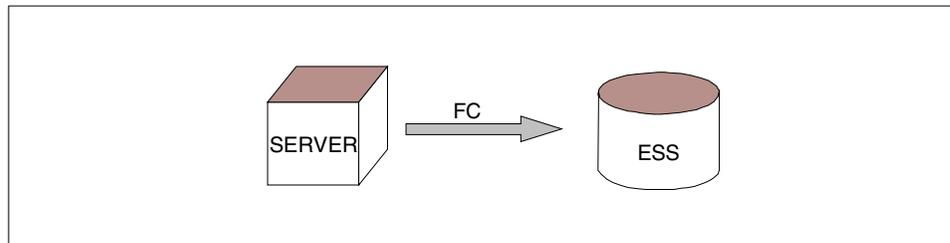

Figure 34. Fibre Channel connection — server to ESS
4. The ESS Specialist is now used to assign these disks to Fibre Channel (Figure 34).